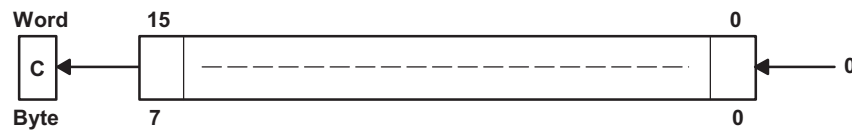

Figure 3-14. Destination Operand – Arithmetic Shift Left
Description The destination operand is shifted left one position as shown in Figure 3-14. The MSB is shifted into the carry bit (C) and the LSB is filled with 0. The RLA instruction acts as a signed multiplication by 2.